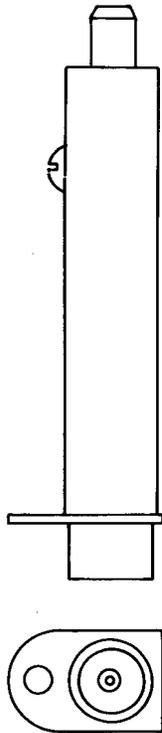

Fig. 10—560-Type Jack
2.10 560A, B, and C: These are coaxial-type jacks (Fig. 10).